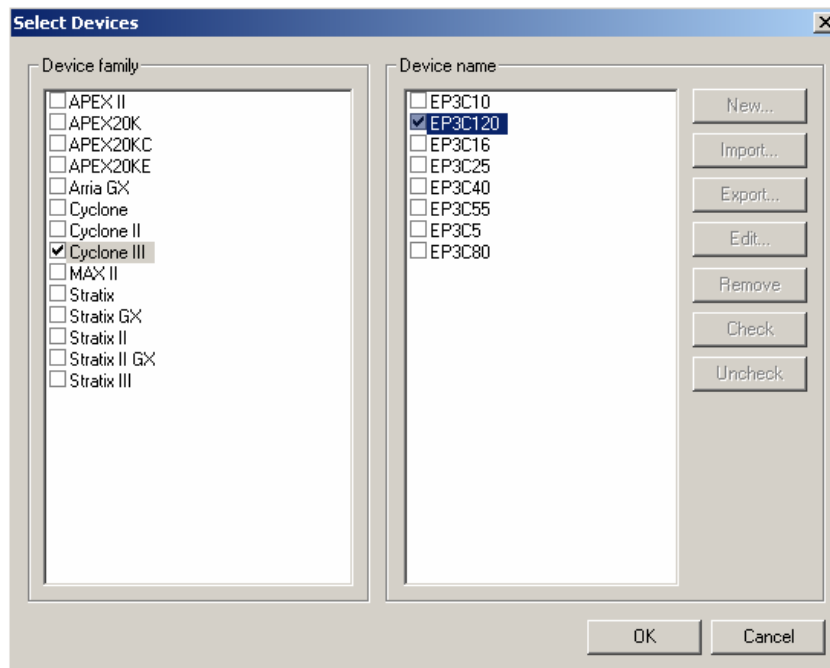

Figure 0.3. Select Devices Page
9. Select the targeted FPGA that you are using to program the serial configuration device. See Figure 0.3.